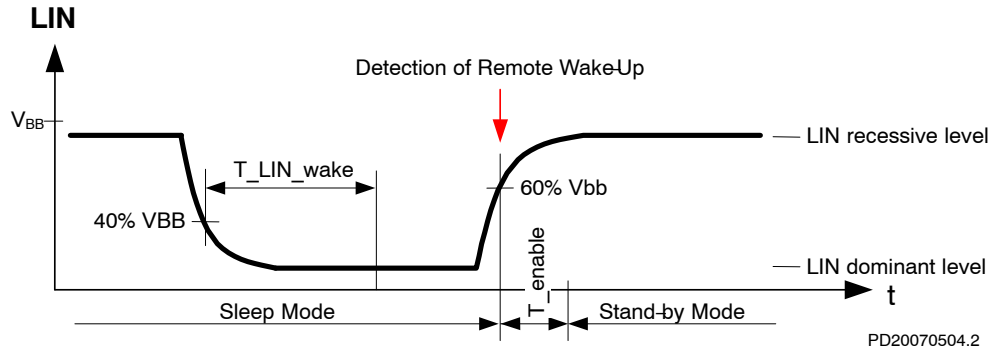

Figure 5. Remote (LIN) Wakeup Detection
- Remote (or LIN) wakeup – when LIN bus is externally driven dominant during longer than T_{LIN_wake} and a rising edge on LIN occurs afterwards – see Figure 5.